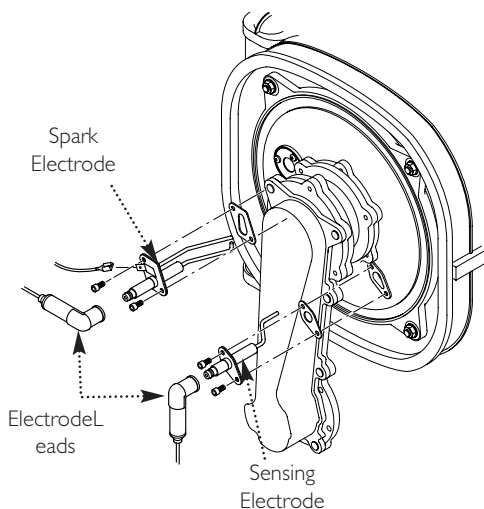

Fig. 68
14.2 Spark and Sensing Electrodes (Fig. 68)